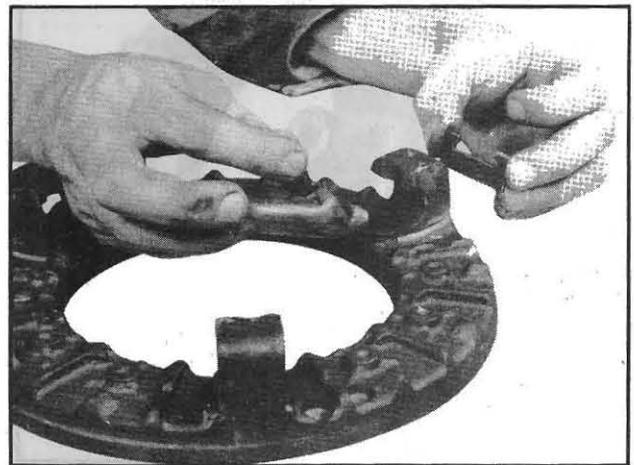

Fig. 129
1. Assemble the lever, eyebolt and pin. Holding the eyebolt and lever as close together as possible, grasp the strut as shown in Fig. 129. Insert the strut in the pressure plate